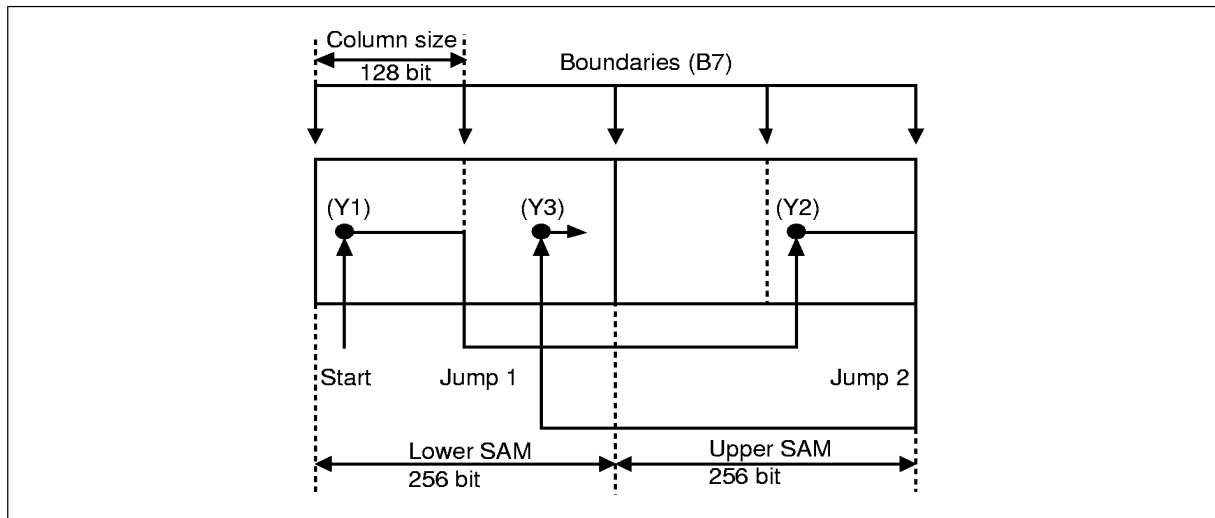

Figure 7 Example of Boundary Split Register
**Stopping Column in Split Transfer Cycle:** The HM538253B/HM538254B has the boundary split register operation using stopping columns. If a CBRs cycle has been performed, split transfer cycle performs the boundary operation. Figure 7 shows an example of boundary split register. (Boundary code is B7.)